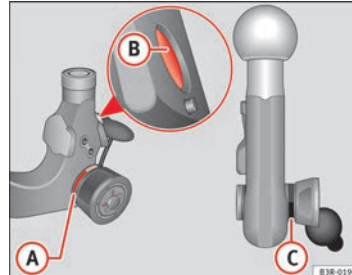

Fig. 157 Removable towing bracket: Ball joint
- Check that the red marking **(A)** ⇒ Fig. 157 on the knob is inside the black zone marked on the ball joint.